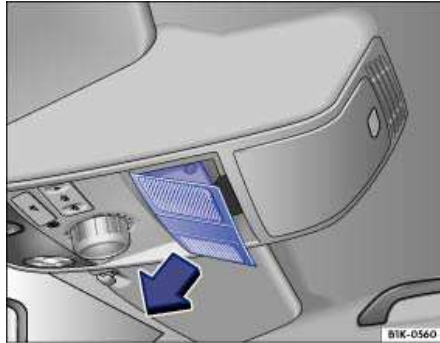

Fig. 154 In headliner: Removing cover.
1. Remove the cover in direction of the arrow ⇒ fig. 154.